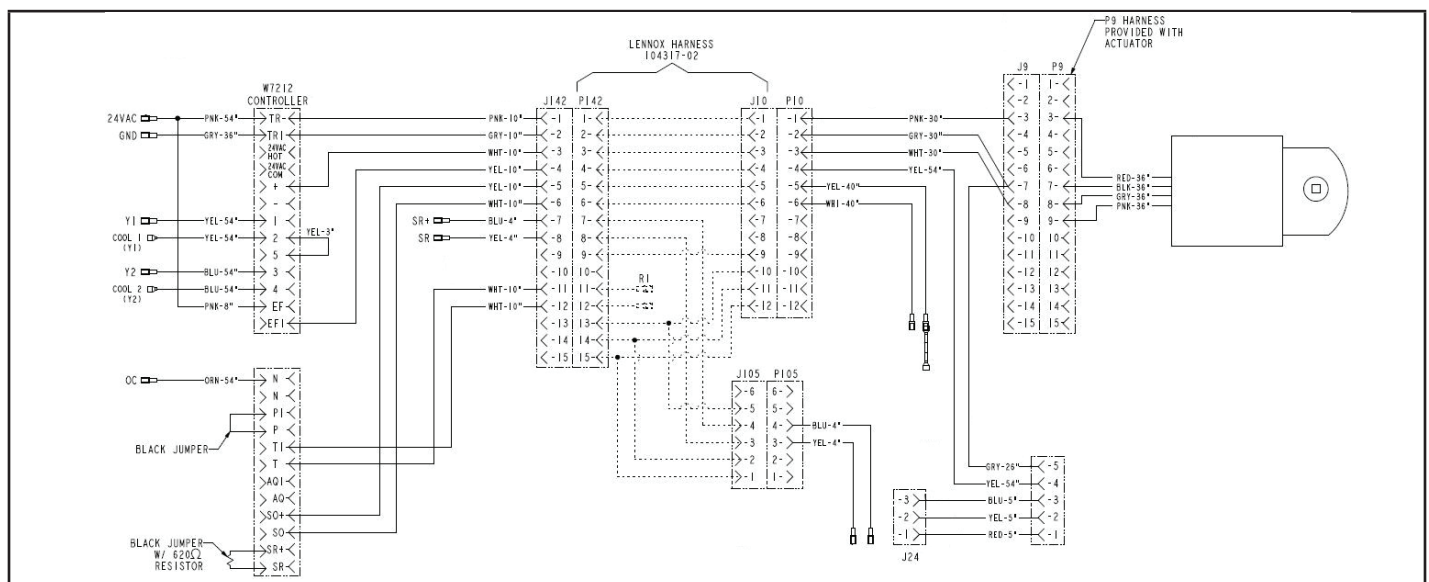

FIGURE 24
- 3 - Connect any optional sensors as shown in FIGURE 24.
- 6 - If optional power exhaust is used, wire according to instructions provided with power exhaust. See FIGURE 24.